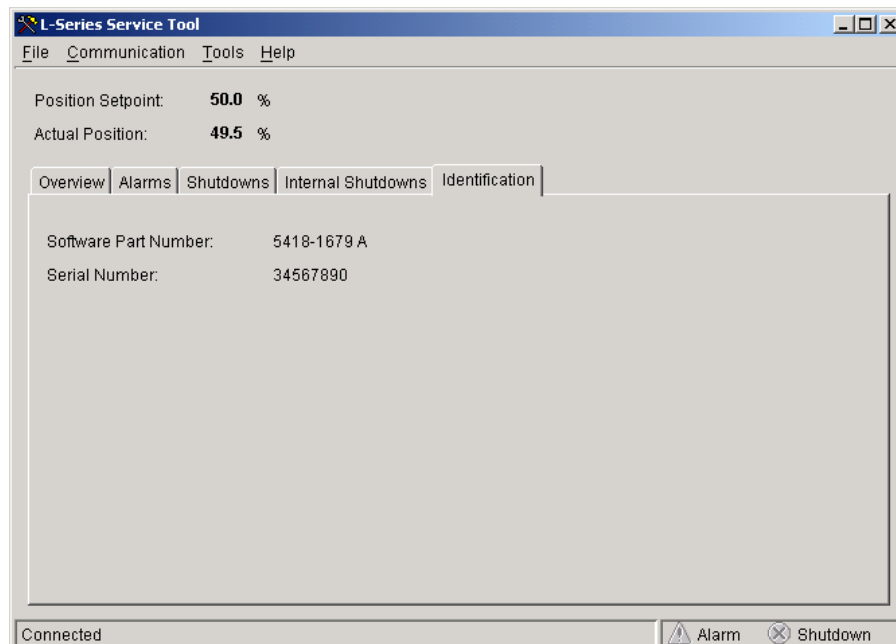

Figure 4-12. Service Tool—Identification Tab
- Identification (Figures 4-12)